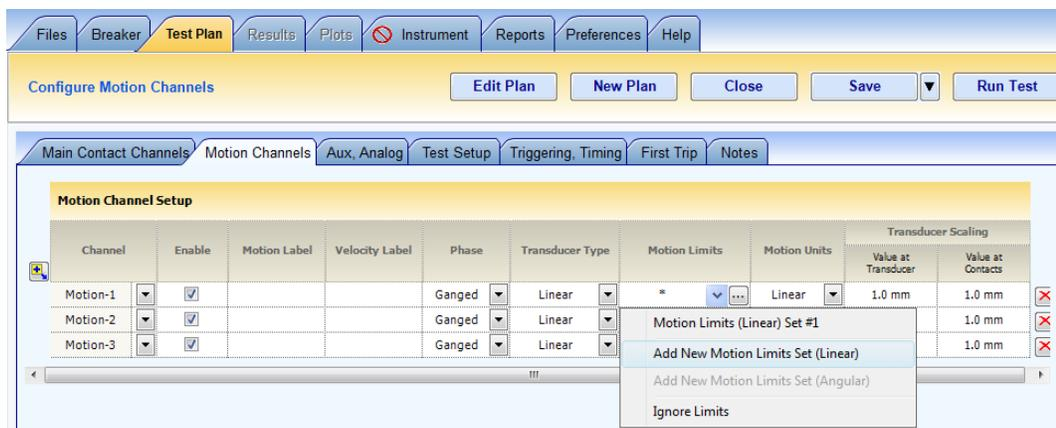

Figure 85 Selecting a Motion Limits Set for a Motion Channel
2. For each motion channel, select a Motion Limits set (Figure 85).